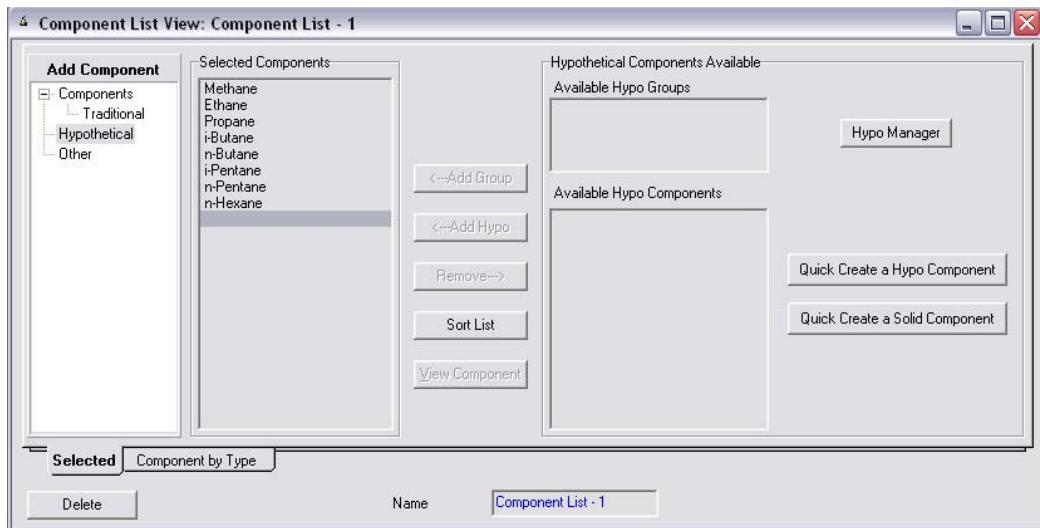

Figure 4-1
2. On the **Connections** tab, add a Compressor and enter the following information as shown in Figure 4-1: